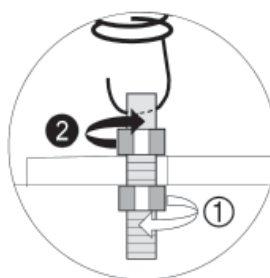

Fig. 62
- perform operations 1 and 2 shown in Fig. 62.